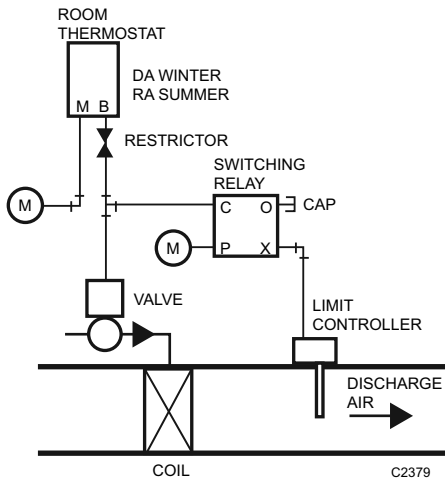

Fig. 35. Typical Switching Relay for Application.
Figure 35 shows a typical spdt switching relay application for heating/cooling operation in which the thermostat controls the heating/cooling coil valve. Seasonal mainline pressure changes cause the action of the thermostat to be reversed. A discharge low-limit control is switched into the control circuit for heating and out of the circuit for cooling. The switching is done from mainline pressure connected to the pilot port (P).